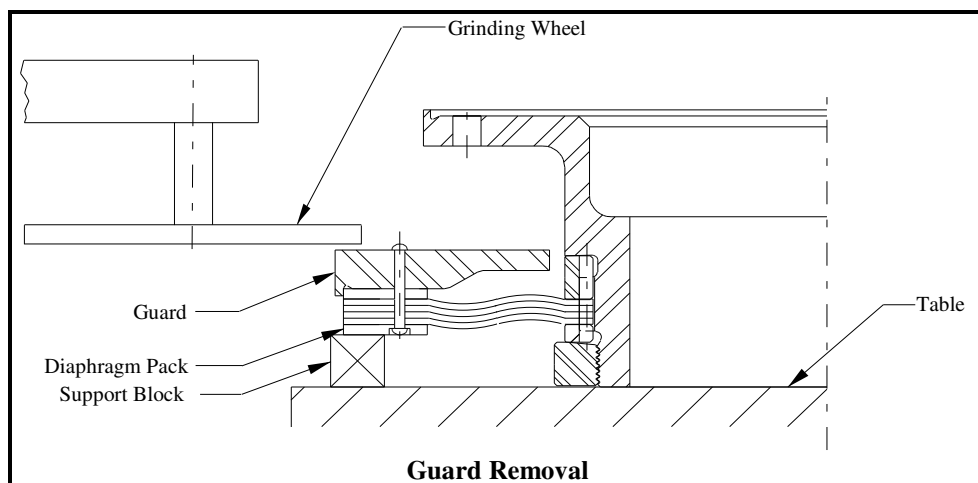

Figure 4-12
4.7.1.8 If diaphragm pack inspection is required, remove the two (2) rivets retaining the guards (see Figure 4-12). Using the tapped jacking holes provided in the guard, disengage the guard to diaphragm pack pilot. Pull the guard back to inspect the outer diaphragms for any cracks, dents, distress areas or other abnormalities.